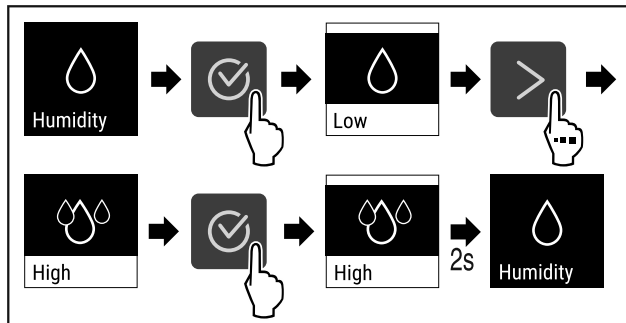

Fig. 75
- Complete steps (see Fig. 75).